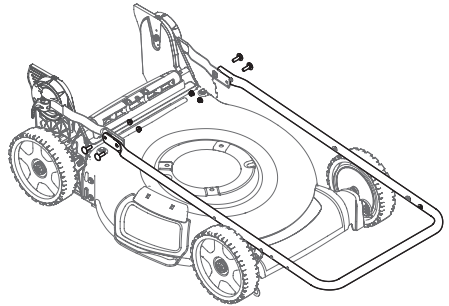

Figure 8
- Using the four carriage bolts and nuts removed in STEP 1, secure the upper handle to the lower handle. Tighten hardware securely to secure the handle in place (Figure 8).